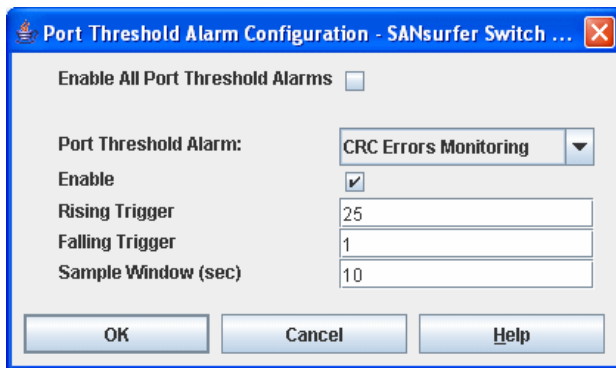

Figure 28 Port Threshold Alarm Configuration dialog
2. Select **Switch > Port Threshold Alarm Configuration**. The Port Threshold Alarm Configuration dialog shown in Figure 28 prompts you to enable or disable all alarms, select an event, set triggers, set a sample window and enable or disable an individual alarm.